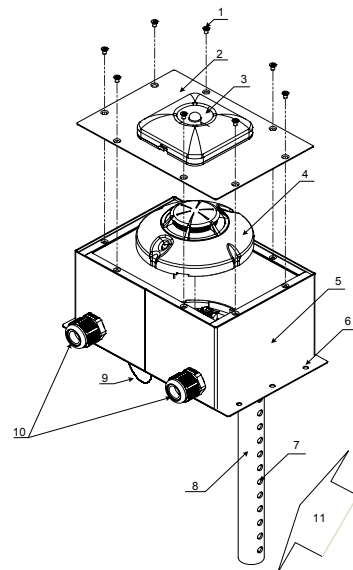

Fig.4
Part of the air flow runs through the opening holes ( pos.7, Fig 4 ) of the inlet tube ( pos.8, Fig.4 ) and passes through the duct smoke detector as reduces its speed and goes out through the outlet tube ( pos.9, Fig 4 ).The mounted mechanical filters stop the large particles from the airflow and thus they protect the sensitive element of the fire detector from dust contamination.
-inlet tube holes (pos.7, Fig.4) are facing the
air flow (pos.11, Fig 4 );
4. Mount the device on the air conduit by the six self-tapping screws from the set, and put the duct smoke detector in position so that the inlet tube holes (pos.7, Fig. 4) (poz.8, Fig.4) are upstream (poz.11, Fig.4) the air flow.
5. Unscrew the 8 screws (pos.1, Fig.4) and remove the lid (pos.2, Fig.4) of the body (pos.5, Fig. 4) of the duct smoke detector.
**Note:** Removing the lid must be made with caution since the Remote indicator (pos.3, Fig.4) is factory built-in together with the fire detector base. Removing the lid provides access to the optical smoke fire detector mounted in the duct smoke detector.
6 Take-off the fire detector (pos.4, Figure 4) from the base.
7. Lead the wires of the fire alarm line (loop) through the input and output nozzles (pos.10, Fig.4) of the duct smoke detector.
(Remote Indicator RI31 (pos.3, Fig.4) is factory built-in with the detector base)
10. Place the lid (position2, Figure 4) of the device and bolt up the screws (pos.1, Figure 4).